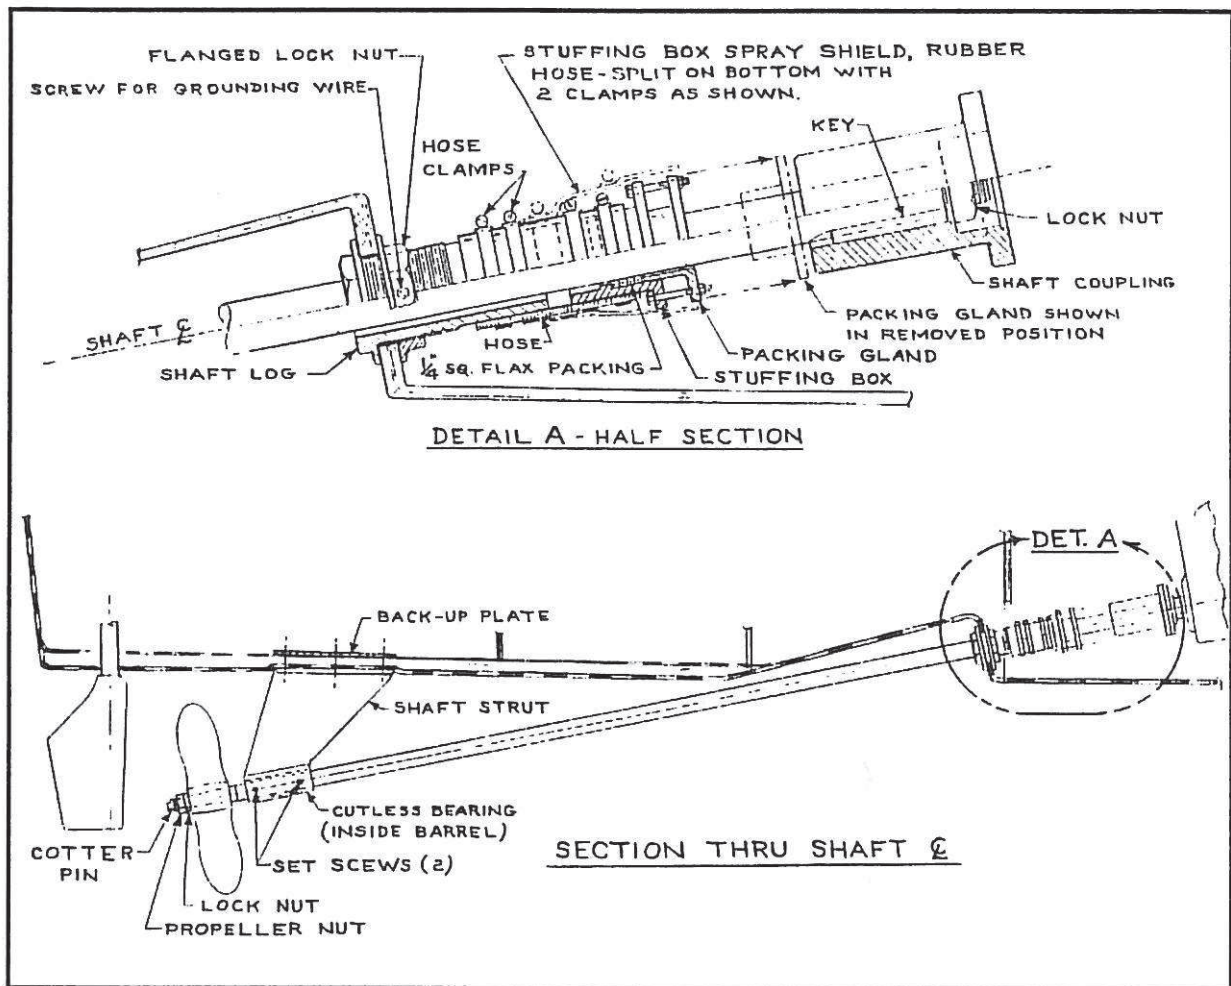

Figure 26 - The Drive Line Assembly
**1. The Shaft Log.** The shaft log recess is the tunnel in which each propeller shaft turns. In your Bertram, the shaft logs are a part of and are constructed of the same material as is the hull (as shown in Figure 26, Drive Line Assembly). Each stuffing box is attached to its shaft log recess by a flexible hose held in place by hose clamps. This flexible hose serves to absorb any normal shaft vibration.